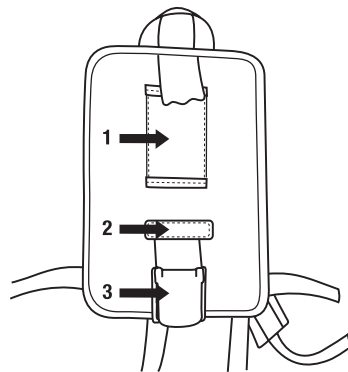

Fig. 10b
1. With either end of the motor/blower towards the top of the back pack (end with the drag handle), thread the back pack strap through the top retaining slot on the motor/blower and the large retaining sleeve (Fig. 10b-1) on the back pack.
2. Thread the strap through the lower retaining slot on the motor/blower and the small retaining sleeve (Fig. 10b-2) on the back pack.
3. Thread the strap through the buckle (Fig. 10b-3) and tighten down.